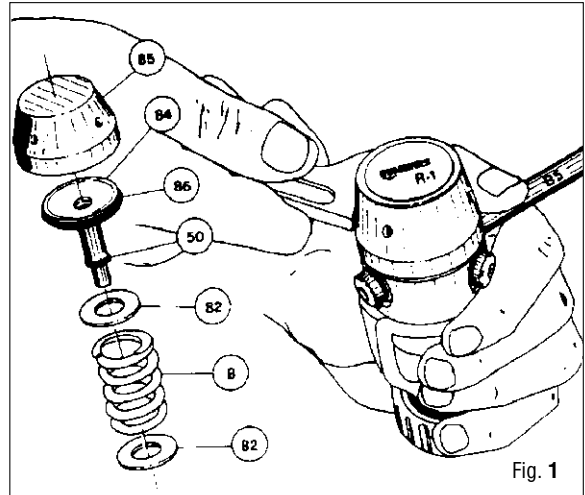
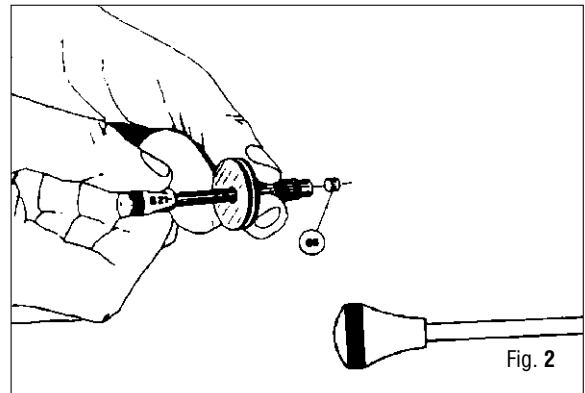

Fig. 1
Fig. 2
4. Remove the complete piston (84-88-86-50) from the cover (Fig.1).
5. Remove O-rings (86) and (50) from piston.
6. Remove the piston seat (86) with tool (B22) (Fig. 2).